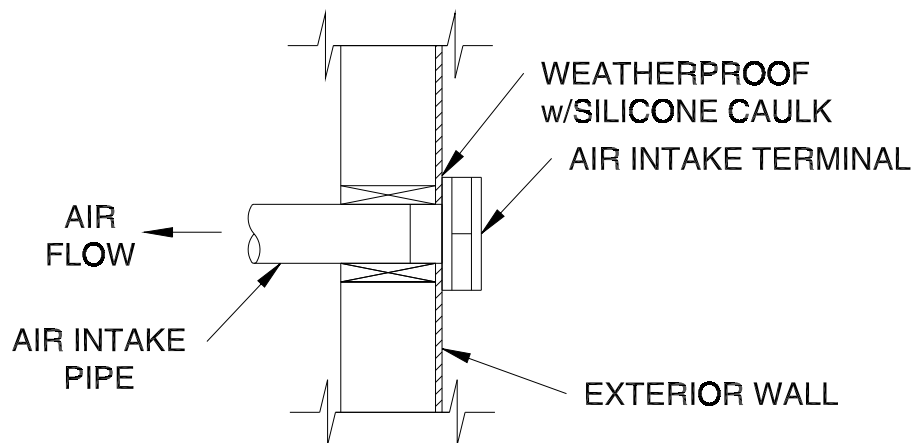

Figure A.3: Horizontal Installation of Air Intake Terminal
- a. Horizontal venting applications use the terminal provided with the Direct Vent Conversion Kit. Install this terminal so that it is flush with the wall as shown in Figure A.3. Seal the terminal to the wall using silicone caulk.